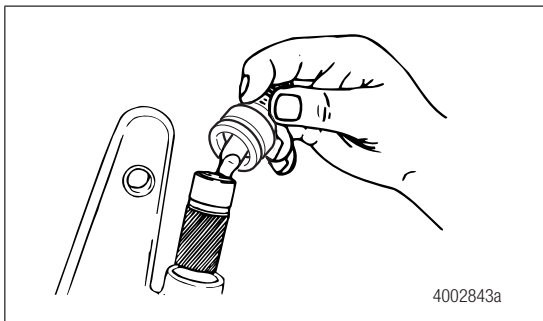

Figure 3.13
2. Remove the boot from the housing. Pull the actuator assembly from the housing. Figure 3.13. Discard the boot, and install a new boot when you assemble the slack adjuster.